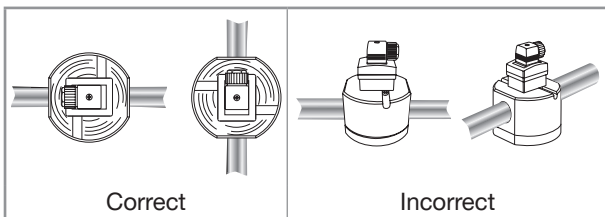

Fig. 3 : The spindles of the oval gears must be horizontal
- the spindles of the oval gears are set horizontally, as shown in Fig. 3.